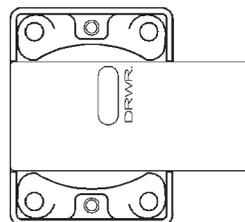

Fig. 3b - Back of door lock with bolt installed
Step 5 - Install the bolt so that the "DRWR" side is facing you. The bolt throw should be beyond the bottom of the lock as indicated in *Fig. 3b*.